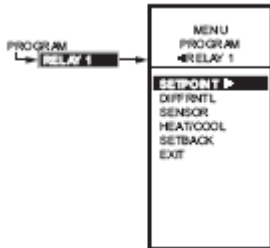

Fig. 2
4. Press the ► button to select RELAY 2 to view the parameters.(Fig. 2 shows RELAY 1.)